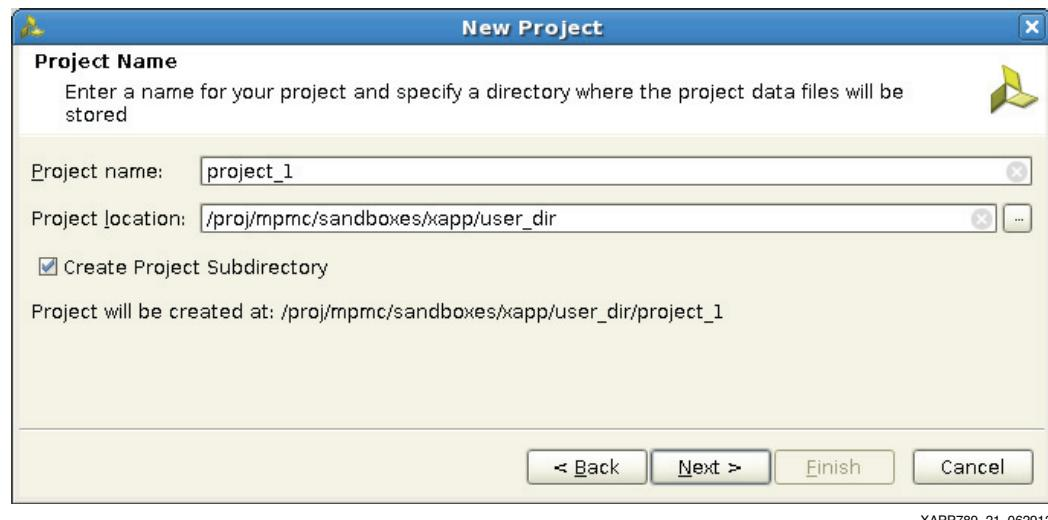

Figure 21: New Project Window (Project Name)
6. Enter the project name **project_1** and select a directory for the project. The selected directory for the new project is referred to as <user_dir> (Figure 21).